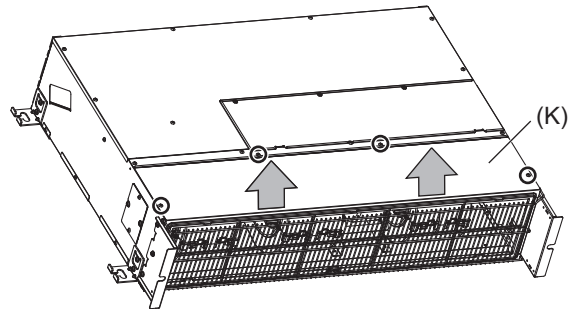

Fig.16
- (1) Push down the tab on the filter, and pull out the filter in the direction of the arrow. (Fig.16)
- (2) Remove the control box cover (A) with procedure [1]-2.
- (3) Remove the front plate (D), (E) with procedure [1]-4.
- (4) Remove the fixing screws on the control box (F) with procedure [1]-4.
- (5) Remove the fixing screws on the front plate (K) to remove it. (Fig.16)